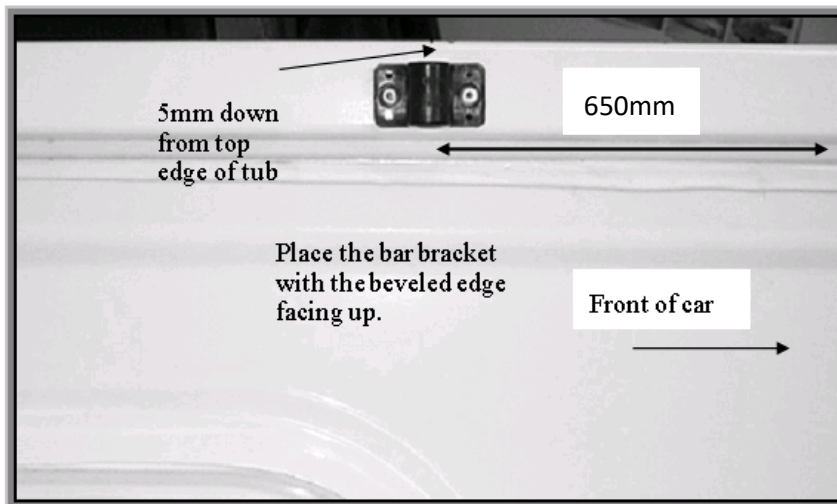

Figure 1: Placement of bar bracket
1. With a pencil mark the inside edge on each side of the tub at 650mm from the inside front face of tub towards the rear on each side. Centrally locate the bar bracket over this position and align the top of the bar bracket 5mm down from the top edge of the tub and drill and rivet bracket into place. **See Figure 1.** Repeat for other side of tub. Fit tonneau support bar to bar brackets.